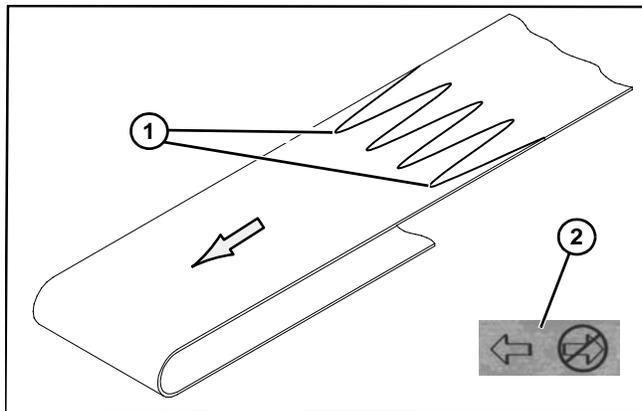

Figure 68
1. Orient belt so splice leading fingers (**Figure 68, item 1**) point in the direction of belt travel as identified by the conveyor directional label (**Figure 68, item 2**).
2. Orient belt so splice leading fingers (**Figure 68, item 1**) point in the direction of belt travel as identified by the conveyor directional label (**Figure 68, item 2**).